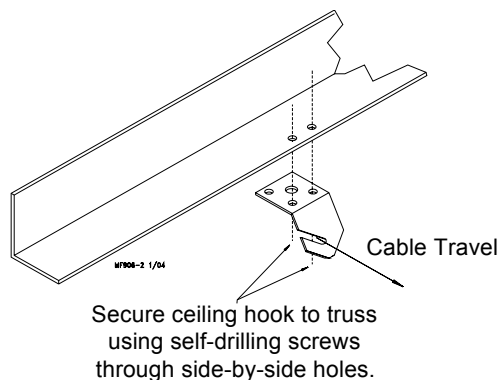

**Figure 13. Screw Hook Installation**
The openings of the screw hooks must be pointed away from the direction of travel when the Power Winch raises the feeder line. **See Figure 13.**
2. Thread the end of the 3/32" or 1/8" cable through the pulley toward the winch. Clamp this end to the 3/16" winch cable about 6" [150 mm] from the last pulley, using a 3/16" cable clamp. See applicable figure; **Figure 13 or 19**.